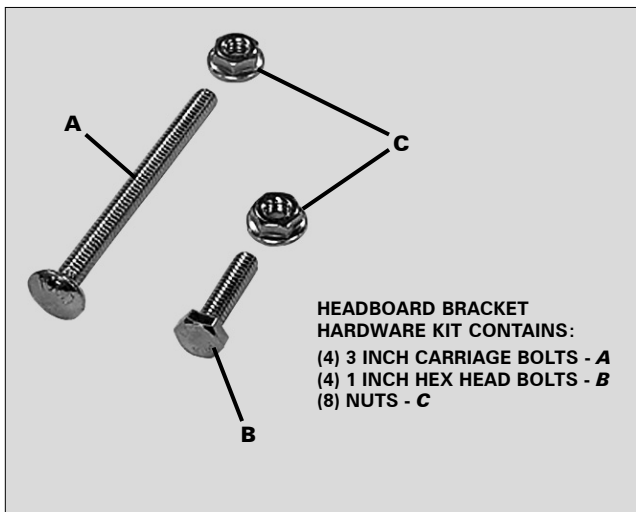
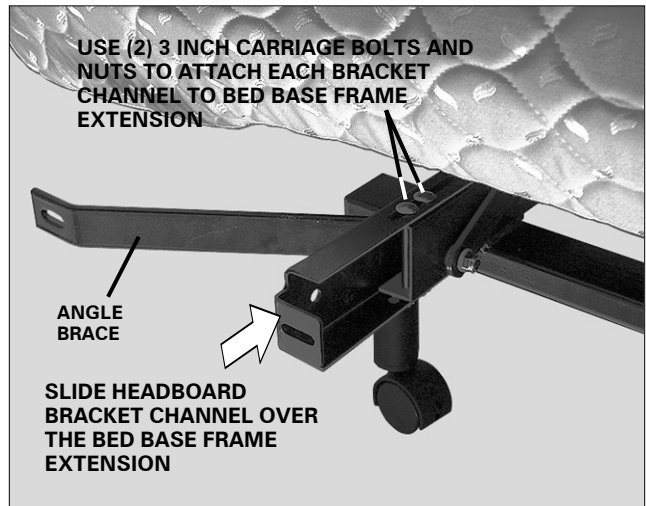

FIGURE 8: Headboard bracket hardware (not included with Pro-Motion™ and Profile products).
FIGURE 9: Headboard bracket channel installation (one each side of the head section of the bed).
- b. Slide one headboard bracket channel onto one side of the bed base frame. Using (2) bolts/nuts (FIGURE 8) attach channel to base frame (FIGURE 9). Hand tighten bolts/nuts (loosely) to allow adjustment of the headboard bracket channels. Repeat procedure to install the other headboard bracket channel to the other side.
QUEEN SIZE HEADBOARD BRACKET ASSEMBLIES ARE SHOWN. TWIN SIZE HEADBOARD BRACKETS (OR SMALLER) ARE NOT EQUIPPED WITH ANGLE BRACE (FIGURES 9 and 10).